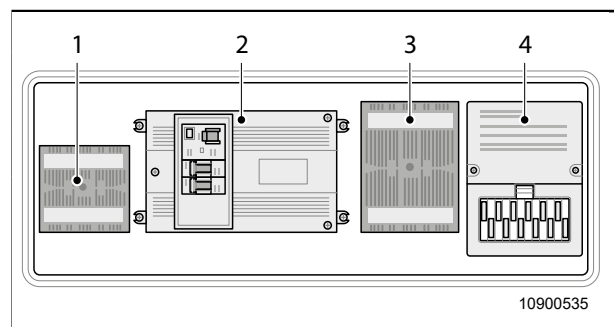

Fig. 52 Electric unit
The electrical appliances in the living area connected to the 12 Volt power supply are protected by separate wire fuses in distribution box (Fig. 52, item 4).
The charger starts as soon as it is connected to the 230 Volt supply. The switch of the charger (Fig. 52, item 3) light up. If the switch does not light up, press the switch.